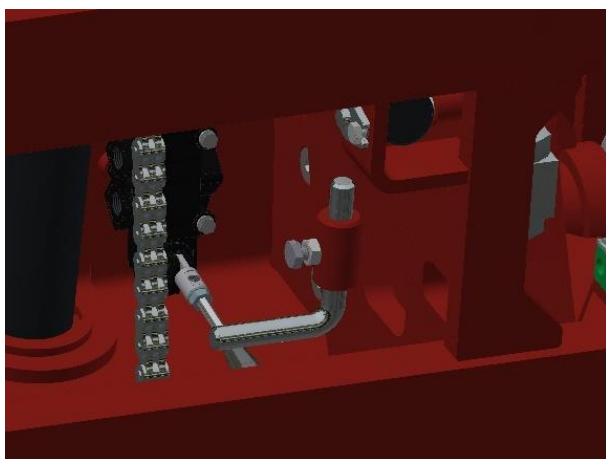

Figure 3.2.1- Hydraulic limit switch
The K95 forward tipping box rotator is protected against unintended opening of the upper clamp during tipping by means of a hydraulic limit switch. See figure 3.2.1. If the upper clamp fails to open in its horizontal position, check whether the limit switch on the tipping frame is operated. If not, the limit switch stop must be raised to the point where the switch does operate.
2. Loosen the adjusting tube bolt and locknut. See figure 3.2.1.